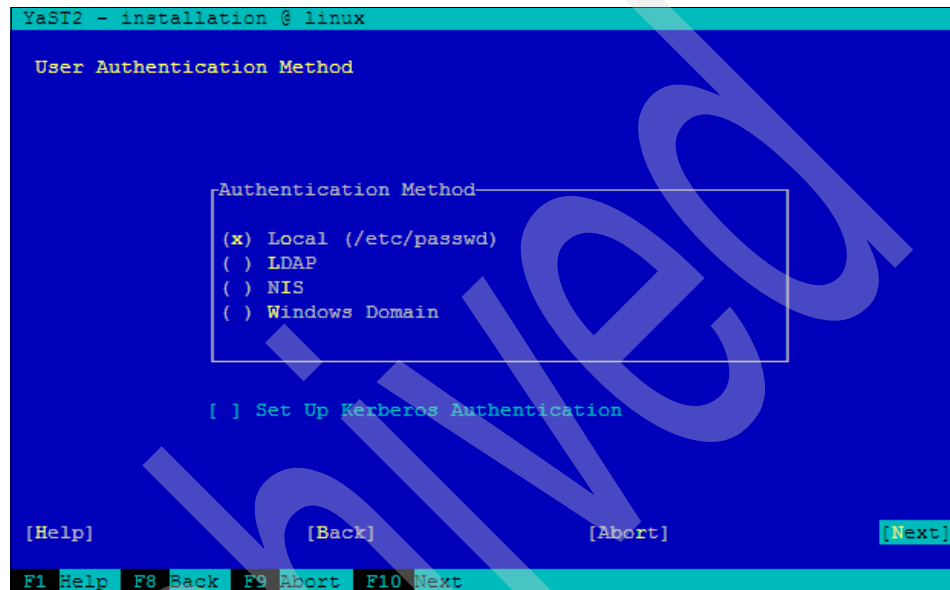

Figure 9-33 User Authentication Method
23. If you want, change the certificate authority (CA) installation setting. Select **[Next]** to confirm the changes.
24. Select the user authentication method appropriate for this LPAR and select **[Next]**. See Figure 9-33.